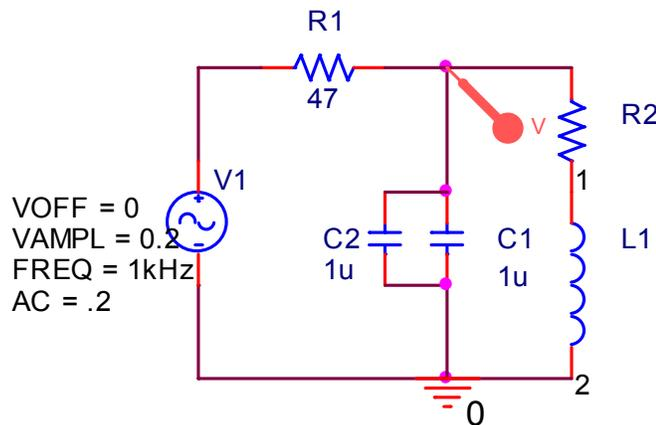

Figure B-2.
- Simulate the circuit in Figure B-2 in *PSpice*. This is the same circuit as the one pictured in B-1, but the inductor (because it *does not* have an insignificant internal resistance) is more accurately simulated by two components, an inductor and a resistor.